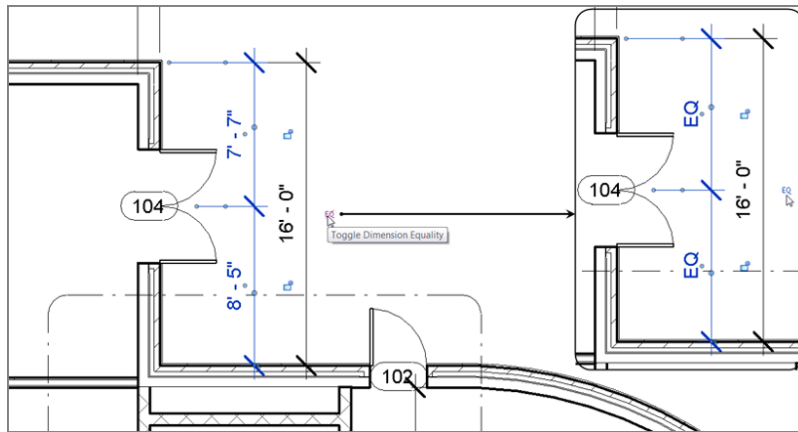

FIGURE 5.8: You can use the dimension string to move the door by clicking the EQ button.
5. Click the blue EQ button, as shown in Figure 5.8. If the door was not exactly centered, this will force the door to move to an equal distance between the two walls.